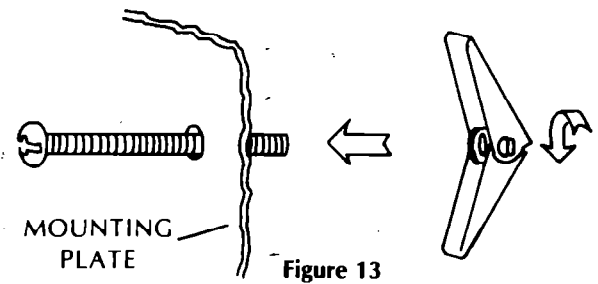

Figure 13
2. Insert one toggle bolt into each hole on the mounting plate (these holes correspond to holes A, B, C and D of the Wall Template) and put toggle nut onto the toggle bolt (Fig. 13). If hole is located in a stud, do not use toggle bolt.
3. If using horizontal exhaust follow these two (2) steps. If method other than horizontal continue to step 4.